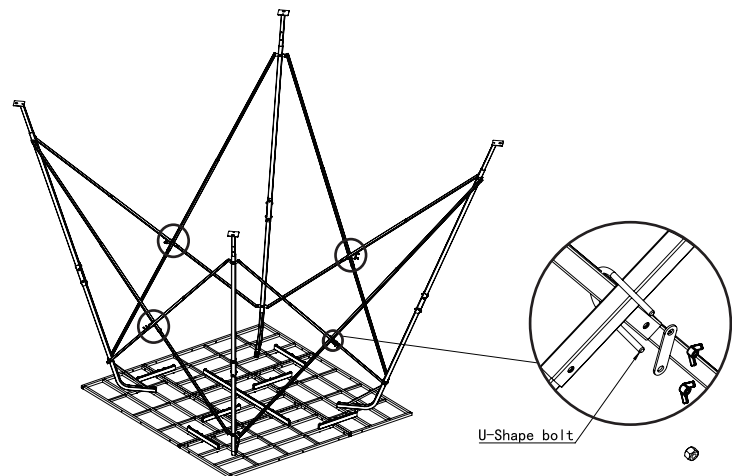

FIGURE 8
Install (4) U-Shape bolts at the cross bars (Figure 8).